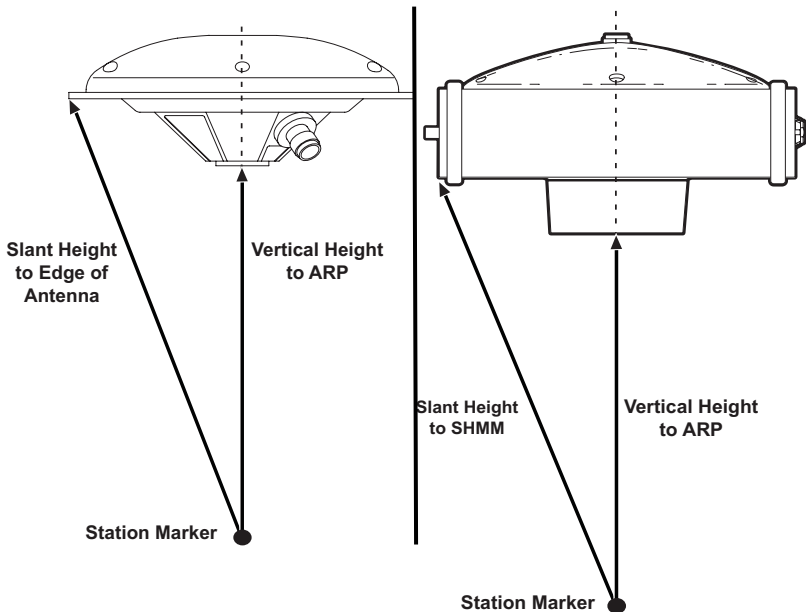

Figure 4-5. Measure Base Station Antenna Height
**Step 6: measure the antenna height** Measure the antenna height from the control point to the rim (slant) or ARP (vertical) of the antenna (Figure 4-5).